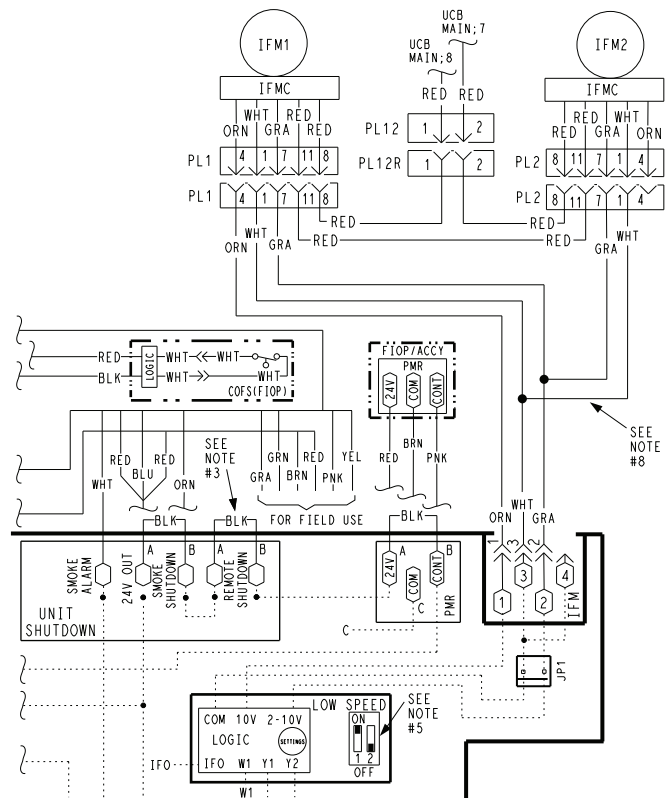

Fig. 11 — Supply Fan Control Wiring Diagram
8. Check for proper motor control voltage signal of 9.7 vdc to 10.3 vdc at IFM-1 (use JP1-2 or bottom pin of VDC terminal as common). See Fig. 11 and 12.
11. Verify control signal out to the motor by checking the voltage at JP1. Signal should be between 3.8vdc and 10.3 vdc. See Fig. 11 and 12.